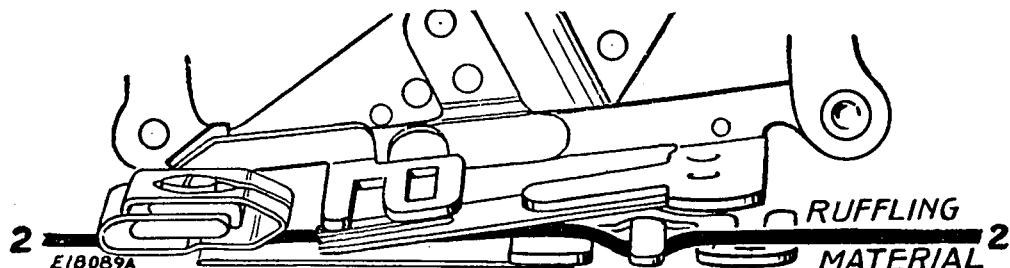

FIG. 62. CORRECT POSITION FOR MATERIAL TO BE RUFFLED
- (3) Insert the material to be ruffled between the two blue blades **Line 2**, Fig. 62.
- (4) Draw the material slightly back of the needle, lower the presser bar and commence to sew.
- (5) For fine gathering, turn the adjusting screw **C** upward and shorten the stitch.
- (6) For full gathering, turn the adjusting screw **C** downward and lengthen the stitch.